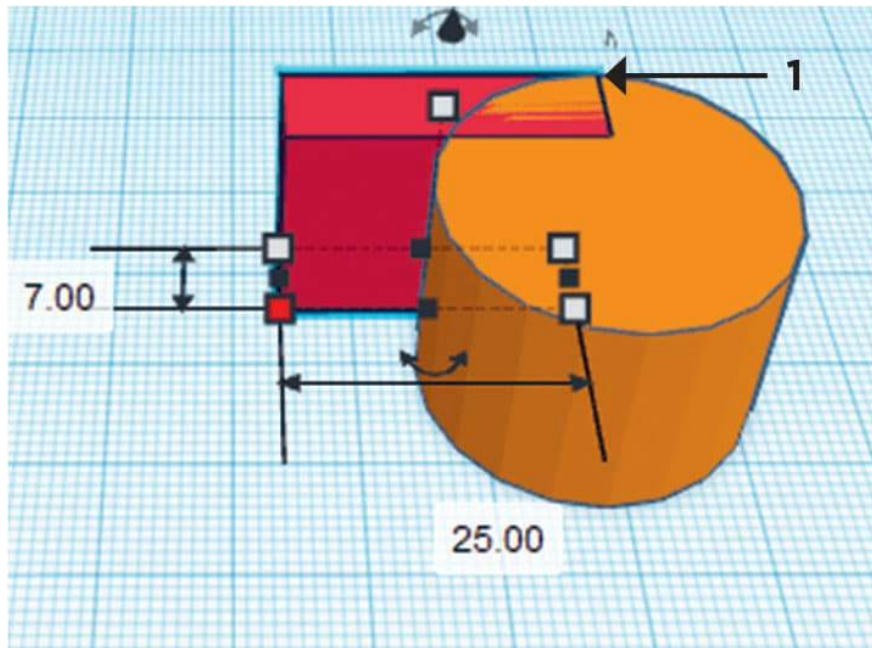

FIG. 1: Connect the cylinder and box of the whistle body.
1. Use a **Cylinder** tool to create the whistle body 27 mm in diameter and 20 mm tall. Add a **Box** at the top left corner that is the same height as the cylinder, 20 mm, but 7 mm wide and about 25 mm long. Make sure the box is flush with the cylinder where they meet. Fig. 1. arrow 1 shows the point where they touch. **Group** the cylinder and box together.